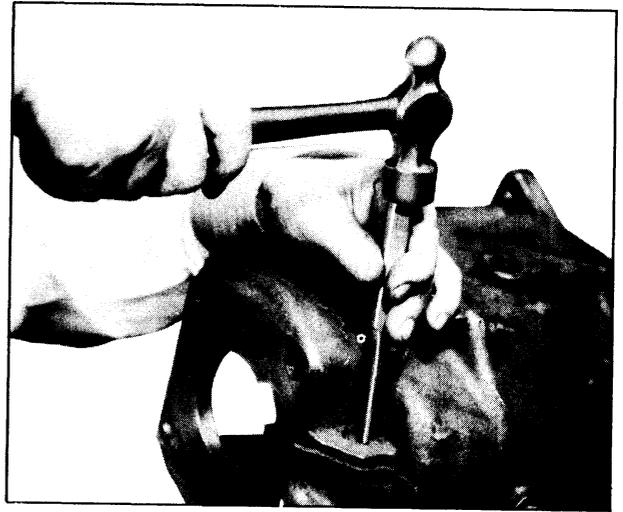

Fig. 11-16 Driving Lock Pin Into Shaft
13. Drive counter gear shaft lock pin into the shaft, then drive shaft out through rear end of transmission case using Bearing Loader Tool J-1001 and soft hammer. (See Figs. 11-16 and 11-17) Make sure that bearing loader follows the shaft closely so that counter gear bearings and thrust washers will be held in place. Allow counter gear to rest on bottom of case.